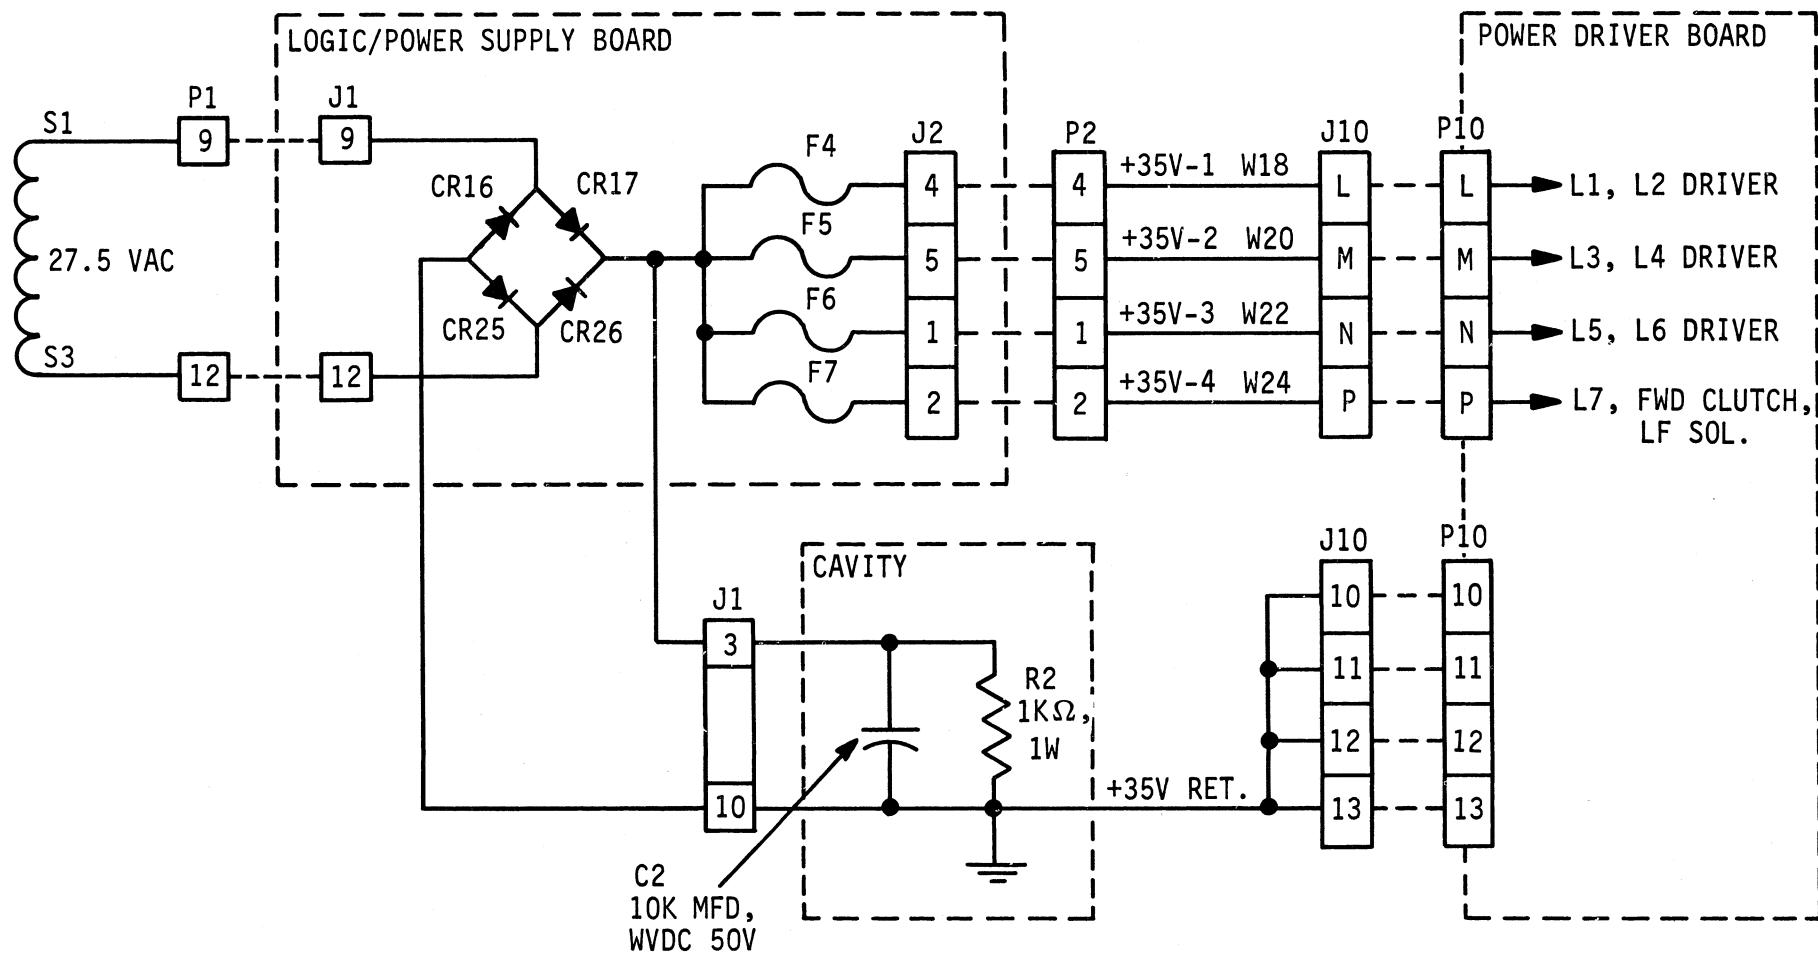

Figure 4-15. +35V UNREGULATED SUPPLY INTERCONNECTION DIAGRAM
4.9.3 +35V POWER SUPPLY (UNREGULATED) - Figure 4-15